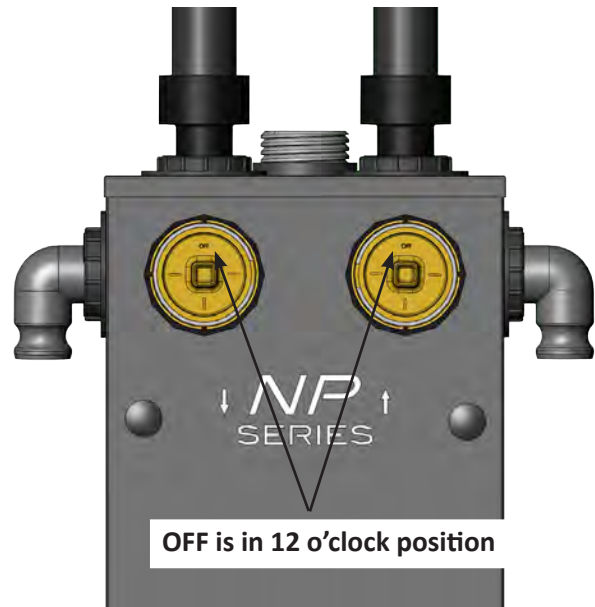

Figure 7: Valve position to isolate loop
- Rotate the upper valves to isolate the ground loop. OFF will be in the 12 o'clock position if the loop is plumbed to the top ports (Figure 7).